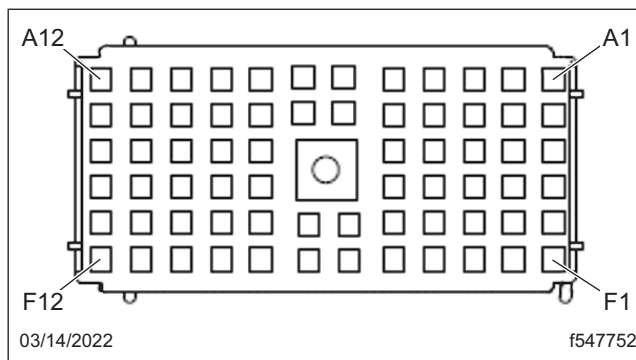

Fig. 17, J6 Connector Cavity Locations
- 12.1 Insert the red (power) wire of the DC converter into the VPDM connector cavity J6-D12 until a click is heard or felt. See Fig. 17. If cavity J6-D12 is already in use by another wire, then install the red wire into cavity J6-D11. If both J6-D12 and J6-D11 cavities are occupied, contact Daimler Truck Technical Support at 855-253-0422, option 4, (5:00 A.M to 4:00 P.M. PT).
- 12.2 Insert the black (ground) wire of the DC converter into the VPDM connector cavity J6-E8 until a click is heard or felt. See Fig. 17. If cavity J6-E8 is already in use by another wire, then install the black wire into cavity J6-D8. If both J6-E8 and J6-D8 cavities are occupied, contact Daimler Truck Technical Support at 855-253-0422, option 4, (5:00 A.M to 4:00 P.M. PT).